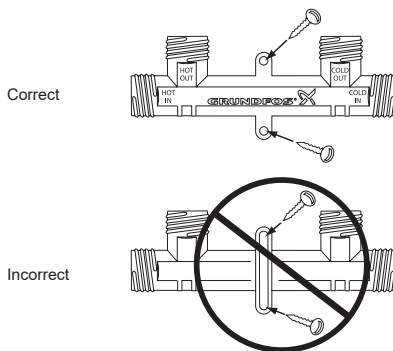

Fig. 4 Correct installation of crossover valve (mounting hardware not included)
8. Crossover valve may be mounted to the wall with screws* if desired; two-hole mounting bracket flush with wall. See fig. 4.